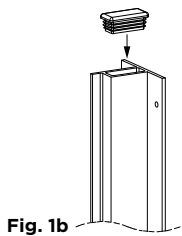

Fig. 1b
1. Install the top and bottom end caps. **Fig 1b.** Note: Use pliers to bend the tabs and rubber mallet to drive the end cap into the wall post.